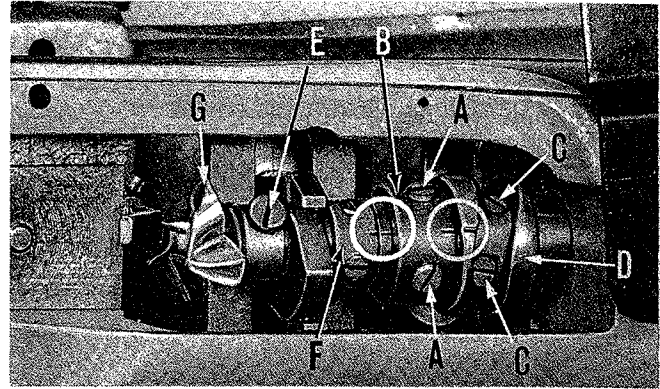

Fig. 26
Tilt the machine on its side. Loosen set screws (A, Fig. 26) in sleeve (B) and slide forward slightly. Temporarily tighten one of screws (A). Loosen screws (C) in cam (D) and slide the cam to the front or rear to locate the positioning finger to the needle as described in the check above. Tighten screws (C). Now move sleeve (B) back so that it contacts cam (D). Tighten screws (A) securely.